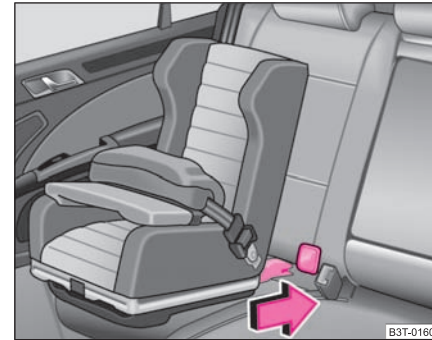

Fig. 173 The ISOFIX child seat is pushed into the mounting funnels
- Push the notched arms of the child seat over the mounting funnels into the locking eyes, until it is heard to lock ⇒ fig. 173.